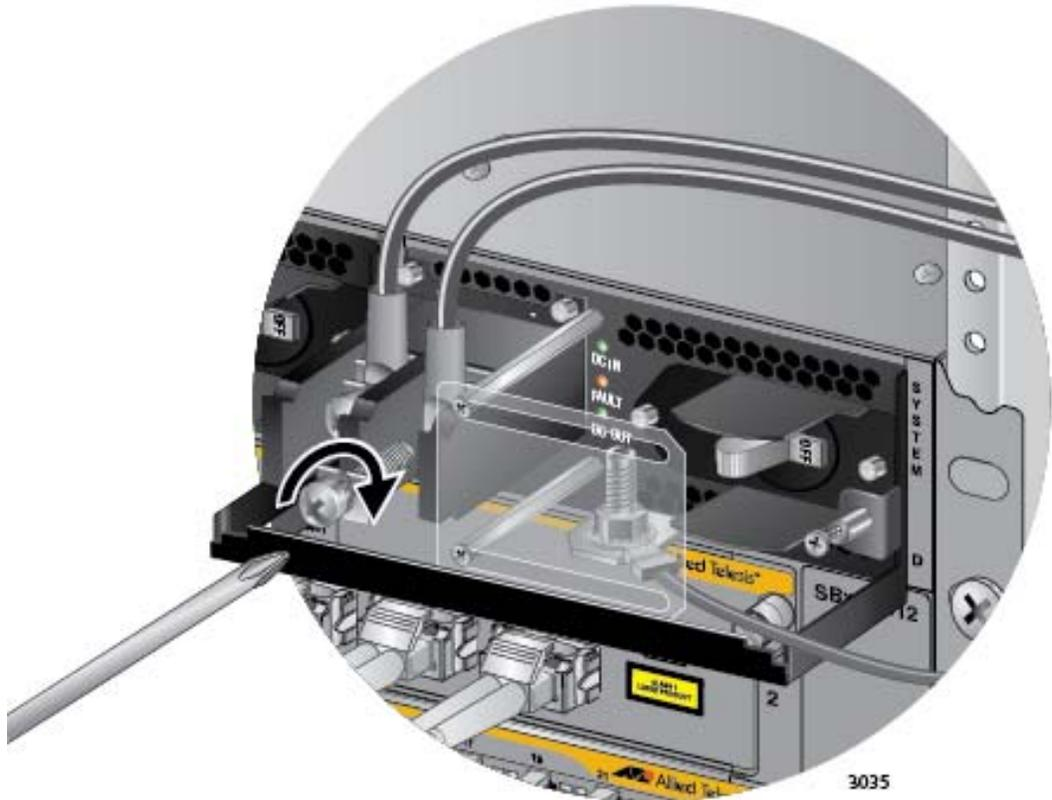

Figure 127. Connecting the Negative (-) Power Wire with a Straight Terminal
7. With a #3 Phillips-head screwdriver, connect the negative (-) power lead wire to the negative terminal on the power supply, with the remaining terminal screw removed in step 5. The negative terminal is on the right. You may attach the terminals with the wires either above or below the terminal block. Figure 127 on page 195 shows the wires above the terminal block.